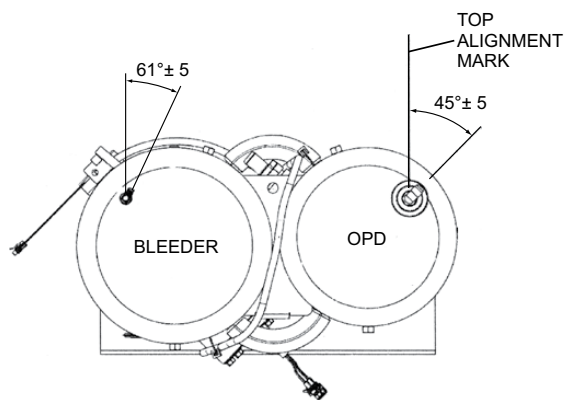

Figure 32 – Tank Bleeder and OPD Orientations
2. If reusing, clean the threads and apply pipe thread sealant (Loctite 567 or equivalent) to the threads of the 90-degree fitting. Assemble the 90-degree fitting to the fill valve in the orientation shown in Figure 32. Torque fitting to 31 Nm minimum, plus orientation, reverse rotation is not permissible.
Located on the rear end cap of the left hand cylinder, see Figure 32.
2. Install the new bleeder valve assembly into the tank. Torque to 20 +/- 4.0 Nm minimum, plus orientation, reverse torque not permissible (see Figure 32).